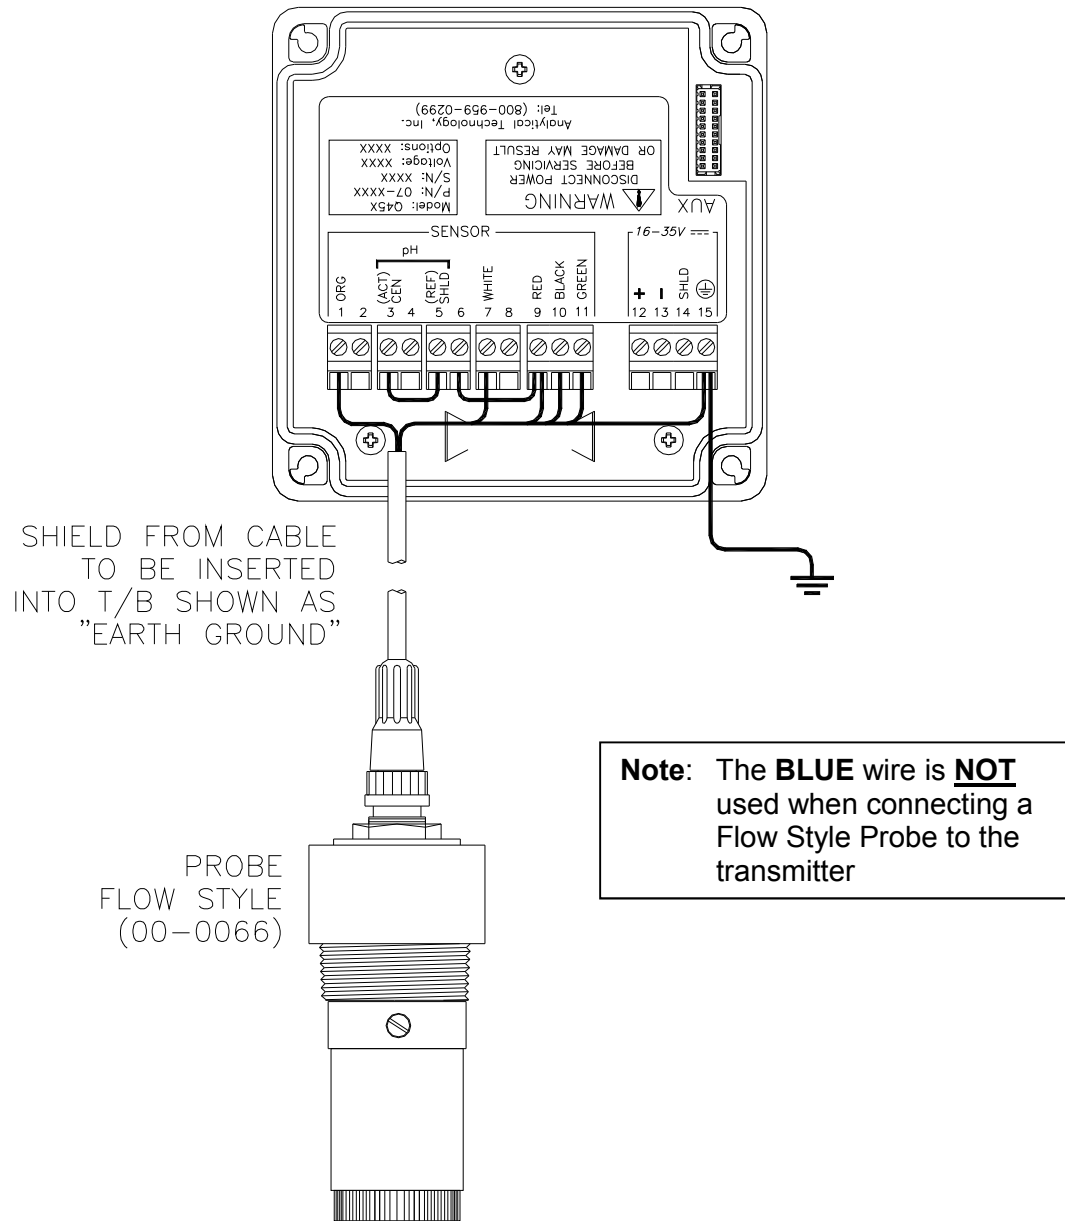
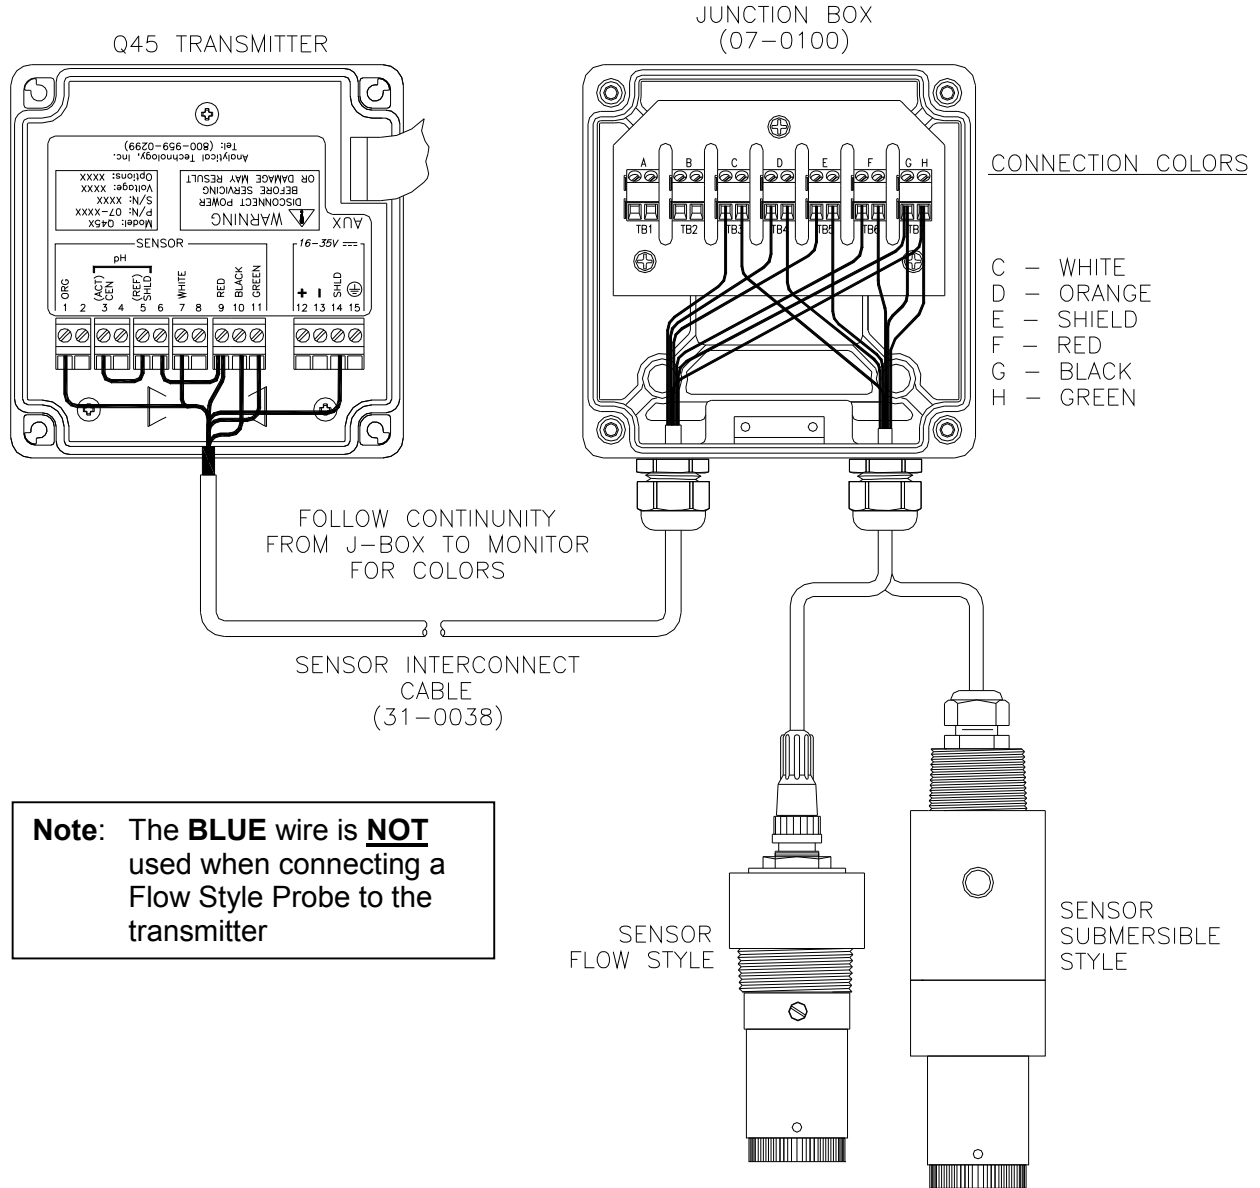

Figure 12 - Sensor Connection
Figure 15 - Junction Box Interconnect Wiring
1. Use wiring practices that conform to all national, state and local electrical codes. For proper safety as well as stable measuring performance, it is important that the earth ground connection be made to a solid ground point from terminal 15 (Figure 12).
Sensor connections are made in accordance with Figure 12 of Figure 15. The sensor cable can be routed into the enclosure through one of cord-grips supplied with the unit. Routing sensor wiring through conduit is only recommended if a junction box is to be used. Some loose cable is needed near the installation point so that the sensor can be inserted and removed easily from the flowcell.
For installations where the sensor is to be located more than 25 feet from the monitor (max. 100 feet), a junction box must be used. The junction box is shown in Figure 15, and is supplied with 2 Pg9 Corp Grips for Sensor and Interconnect cable input.
The Q45H may be configured for pH compensation to maintain excellent accuracy in applications where the pH can vary. To utilize the feature, a pH sensor must be connected to terminals 3 and 5 as shown in Figure 15. Note that jumpers are installed at the factory between terminals 3 and 5, and terminals 6 and 9. When no pH sensor input is connected, these jumpers reduce the potential for noise pickup in the circuit. **Remove the jumpers if a pH sensor is added.**